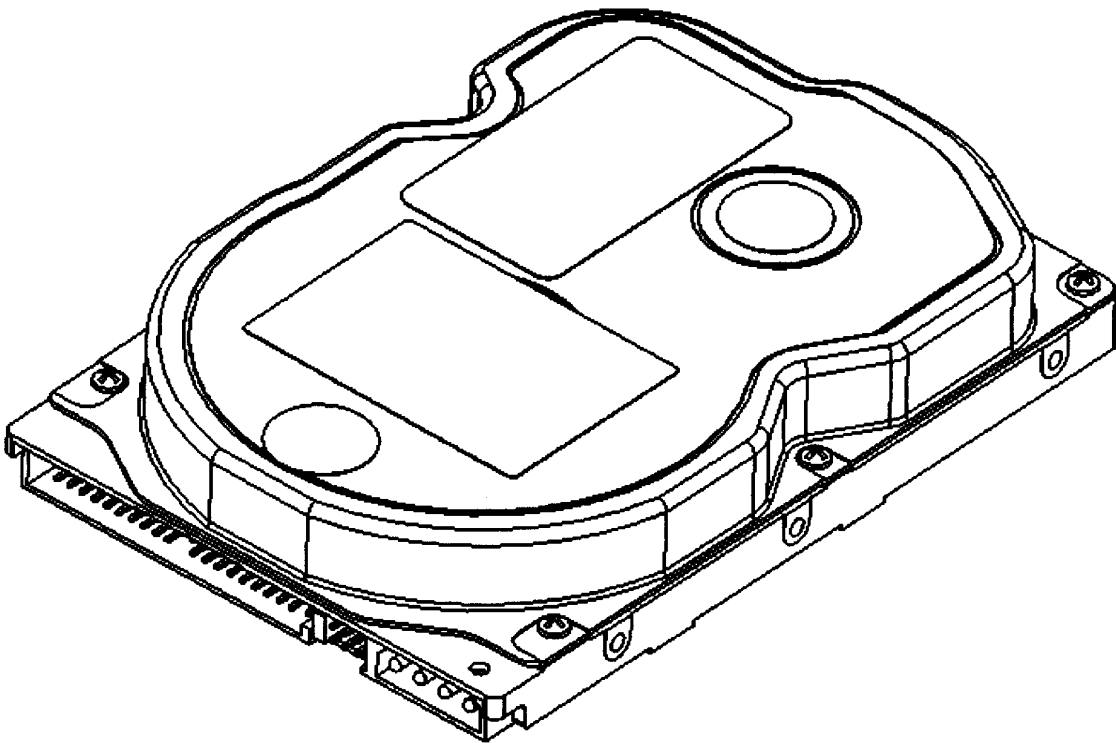

Figure 2.1 Disk drive overview
Figure 2.1 shows the disk drive. The disk drive consists of a disk enclosure (DE), read/write preamplifier, and controller PCA. The disk enclosure contains the disk media, heads, spindle motors actuators, and a circulating air filter.